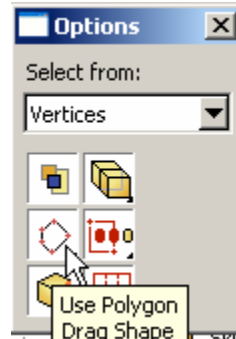

Figure W-14
15. Create another set using **Tools**→ **Set**→ **Create**. Name the set as **strings**. Click Show/Hide selection option button . In the Options window change **Select from:** to **Vertices** and change drag-shape to polygon as shown in Figure W-14.